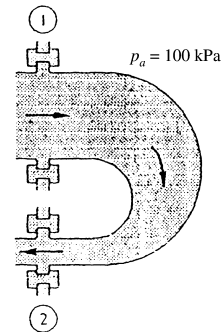

Fig. P3.77
3.77 Water at 20°C flows steadily through a reducing pipe bend, as in Fig. P3.77. Known conditions are $p_1 = 350 \text{ kPa}$, $D_1 = 25 \text{ cm}$, $V_1 = 2.2 \text{ m/s}$, $p_2 = 120 \text{ kPa}$, and $D_2 = 8 \text{ cm}$. Neglecting bend and water weight, estimate the total force which must be resisted by the flange bolts.